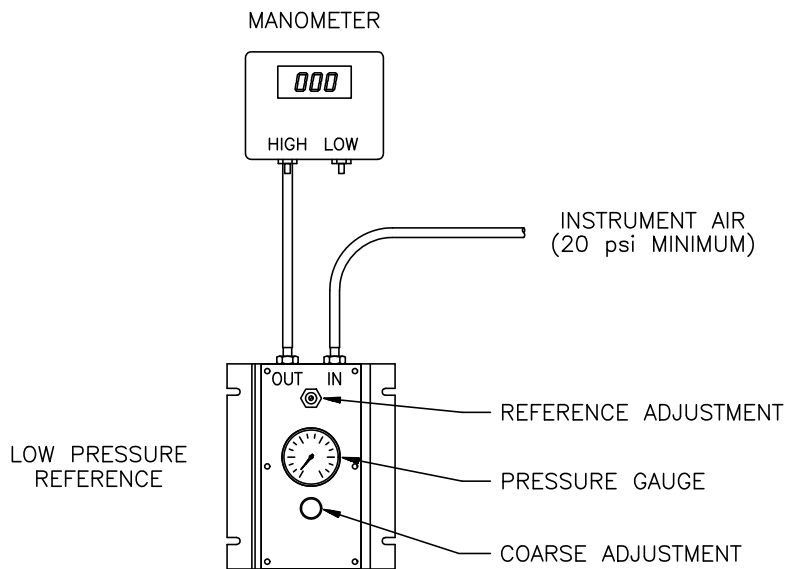

Figure 6.4
2. Connect manometer to output of AUTO-span Pressure Reference (see Figure 6.4).